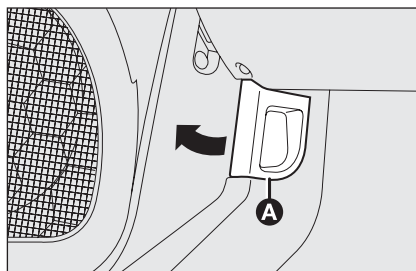

fig. 118
- pull lever **A**-**fig. 118** in the direction of the arrow;